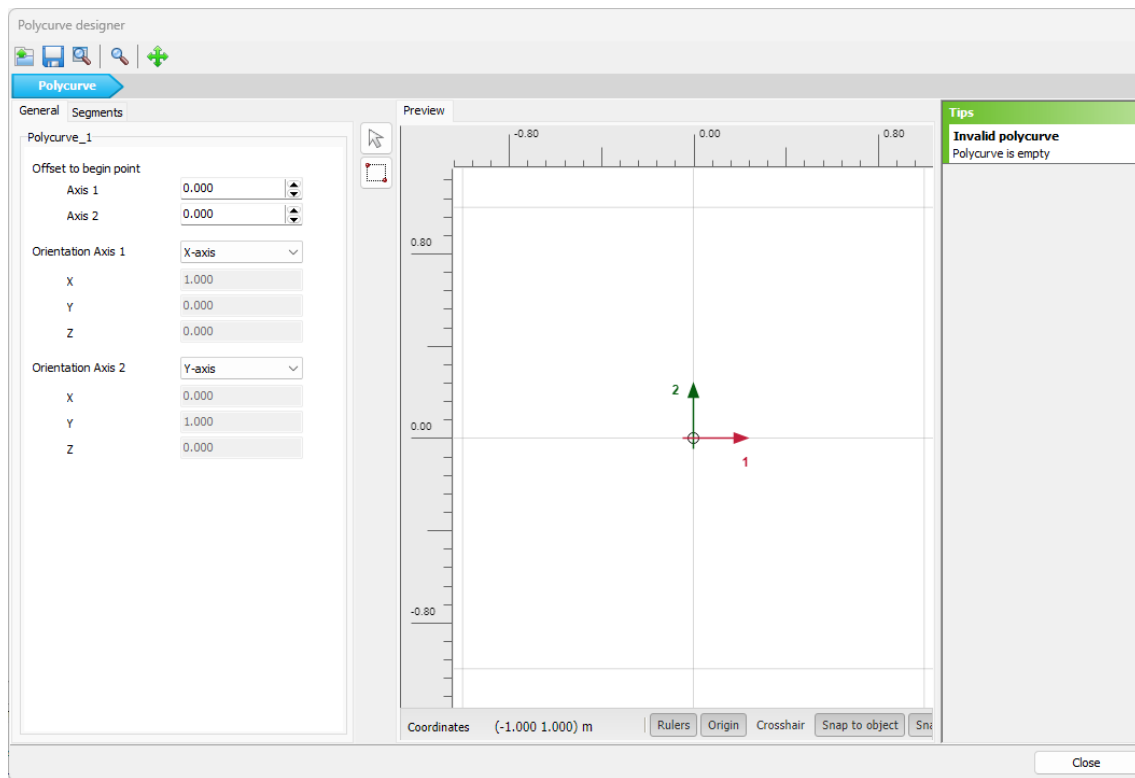

Figure 42: **General** tabsheet of the **Polycurve designer**
4. The polycurve is drawn in the xy-plane (see the Figure 42 (on page 64)). Hence the default orientation axes are valid for this example.